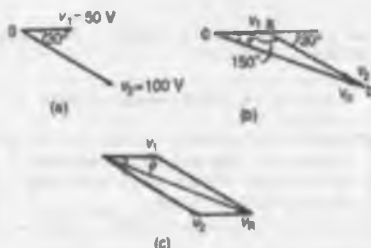

Figure 14.11
Phasors are usually drawn at the instant when time $t = 0$. Thus v_1 is drawn horizontally 30 units long and v_2 is drawn 100 units long lagging v_1 by $\pi/6$ rads, i.e. 30° . This is shown in Fig. 14.11(a) where 0 is the point of rotation of the phasors.
- Draw v_1 horizontal 30 units long, i.e. on of Fig. 14.11(a).
- Join v_2 to the end of v_1 at the appropriate angle, i.e. as of Fig. 14.11(b).
Alternatively, when two phasors are being added the resultant is always the diagonal of the parallelogram, as shown in Fig. 14.11(c).
A more accurate solution is obtained by calculation, using the cosine and sine rules. Using the cosine rule on triangle Oab of Fig. 14.11(b) gives: